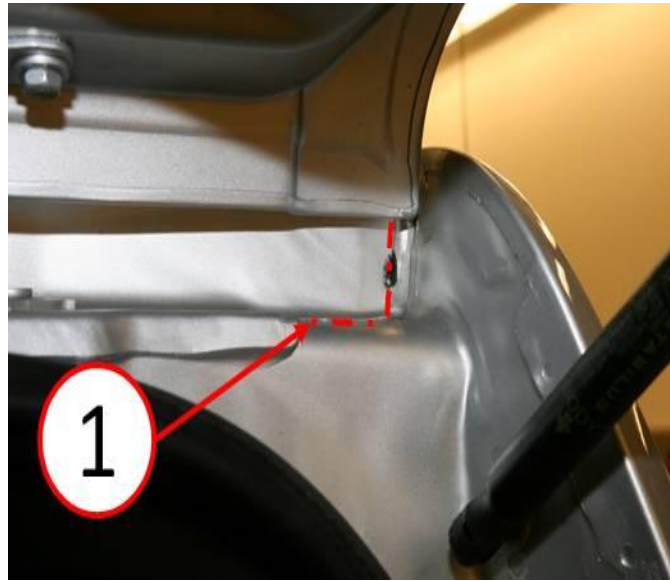

Fig. 3 Sealer Application Area - Right Side Shown
4. Clean the roof ditch seam at the right and/or left side with isopropyl alcohol and a lint free cloth as designated in (Fig. 3)